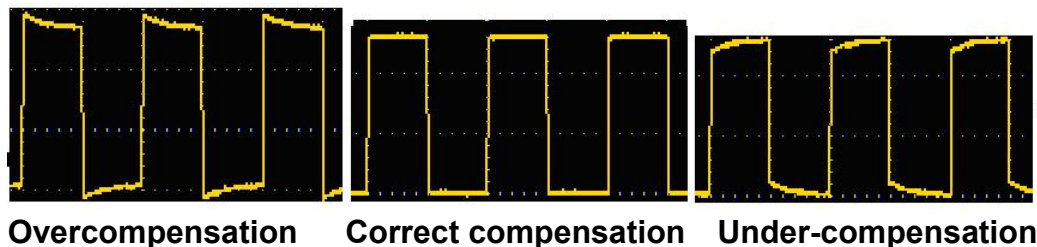
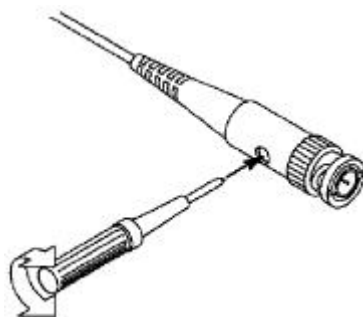

Figure 3-2: Display Waveform of Probe Compensation
Figure 3-3: Probe Adjustment
2. Check the displayed waveform and adjust the probe until the compensation is correct. See Figure 3-2 and Figure 3-3.